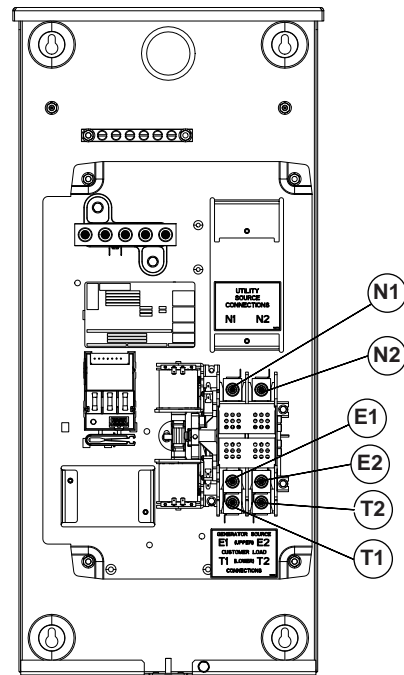

Figure 3-5. Wiring Connections (Non-Service Entrance Rated Models)
1. See Figure 3-5. Connect utility supply at the utility terminals (N1 and N2) on the transfer mechanism.